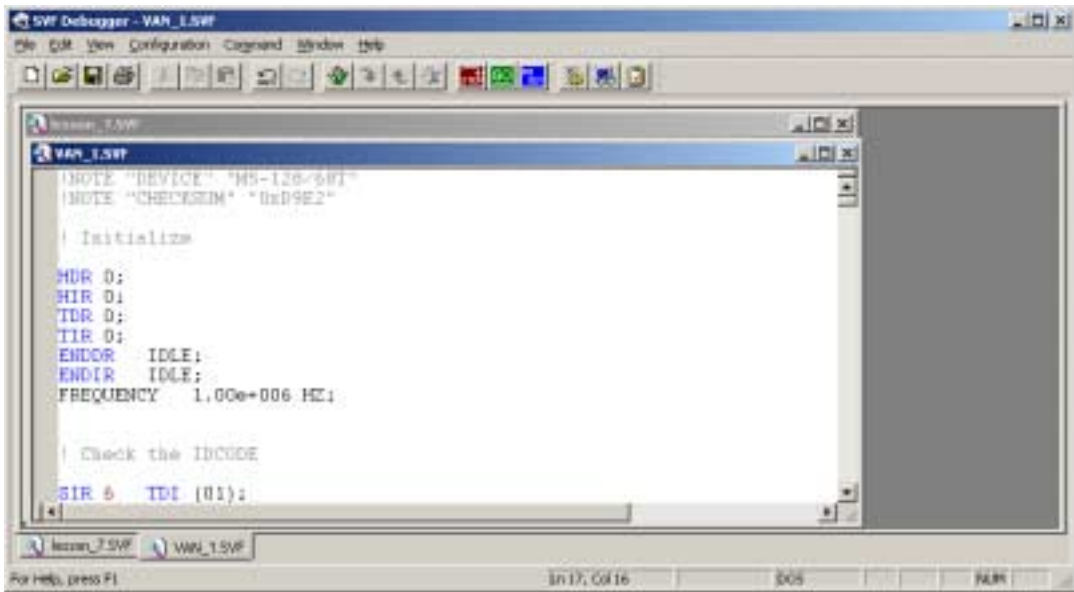

Figure 3-4. SVF Debugger Edit Window.
2. Use the Open .SVF File dialog to locate and select the desired SVF file, and then click **Open**. The SVF file opens in the SVF Debugger Edit Window (Figure 3-4). Some lines are long enough to be truncated in Figure 3-4. Such lines can be viewed in their entirety with the Edit Line dialog box.